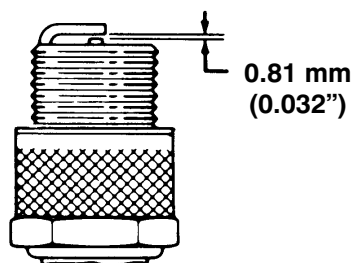

Figure 16
3. Set air gap at 0.81 mm (0.032") (Fig. 16). Install correctly gapped spark plug and gasket seal. Tighten plug firmly to 13.6 N·m (10 ft-lb).